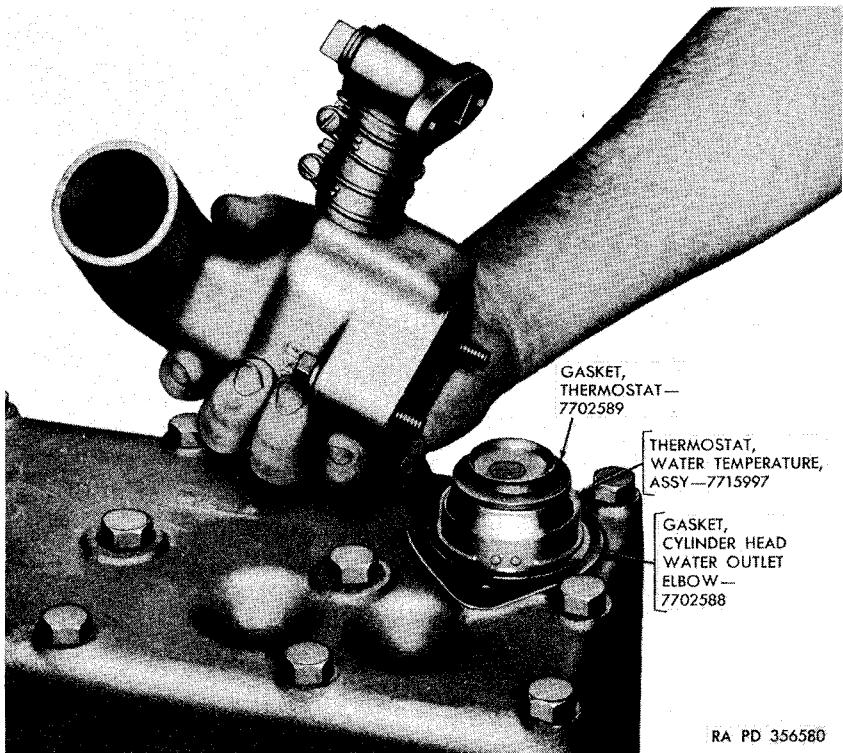

Figure 94. Installation of thermostat.
- (1) Install mounting bracket and place generator in position on bracket.
- (2) Install generator bolts, nuts, and lock washers, but do not tighten.
n. Install Water Temperature Thermostat Assembly (fig. 94). Install a new cylinder head water outlet elbow gasket on the cylinder head and place the water temperature thermostat assembly in position with openings at front and rear. The word "FRONT" on the thermostat must be installed toward the water pump. The gasket must be installed at the top of the thermostat before the water outlet elbow is assembled to the cylinder head. When the thermostat is operating properly, it should start to open at 157° to 162° F. and should be fully open at 183° to 187° F.